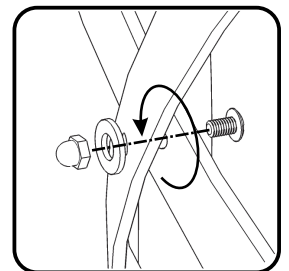

Figure 5
Attach other Back Rail (E) to unit with Bolt (long), Bolt (short), Small Flat Washers and Nut Caps, tightening bolts only halfway. (See Figure 5)